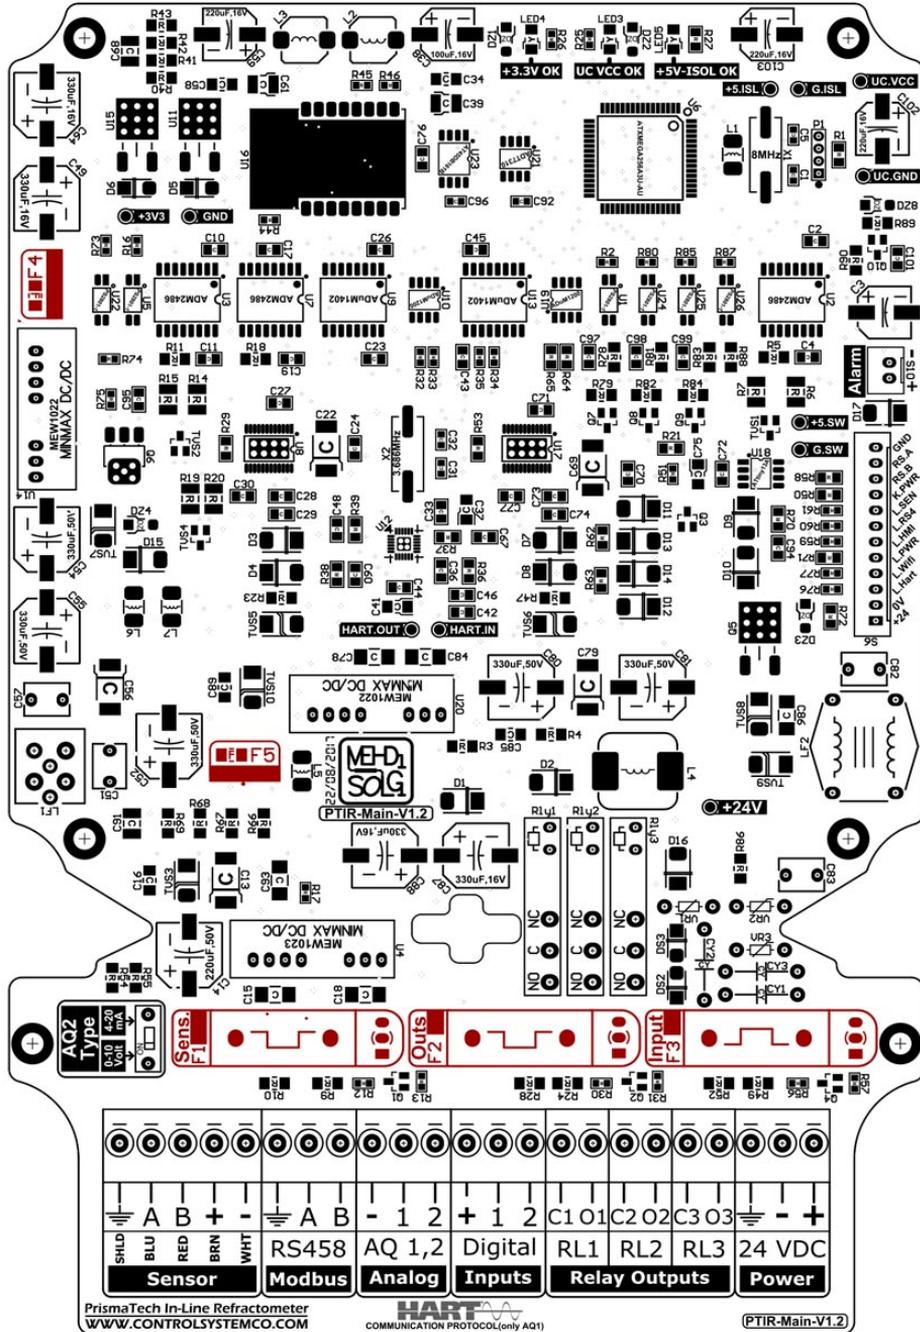

Figure 8-2 Diagnostic LEDs
- 1- **Fuse LEDs:** beside to each fuse (which is marked with F letter on the main board foot print) are a red and a green LED that indicate the status of the protective fuses. If the LED is green the fuse is working otherwise if it is red the fuse is broken and must be changed according to the footprint beside the broken fuse. (see **Figure 8-2**)
- 2- **Voltage check LEDs:** On the middle top of the Control/Display unit main board there are three indicating LEDs marked as **+3.3V OK, +5V ISOL OK, UC VCC OK**. In the normal operation of the main board these LEDs must be ON otherwise there is a problem on the different voltage of the board. (see **Figure 8-2**)
Figure 8-2 assists to localize the diagnostic LEDs.
There is a problem with the 3.3V internal voltage of the Control/Display unit main board. In this case the corresponding indicator LED will be off (See **Figure 8-2**). For action turn off the main power of the equipment and contact local Support & Service center of **PrismaTech®**.
There is a problem with the 12V internal voltage of the Control/Display unit main board. In this case the corresponding indicator LED will be off (See **Figure 8-2**). For action turn off the main power of the equipment and contact local Support & Service center of **PrismaTech®**.